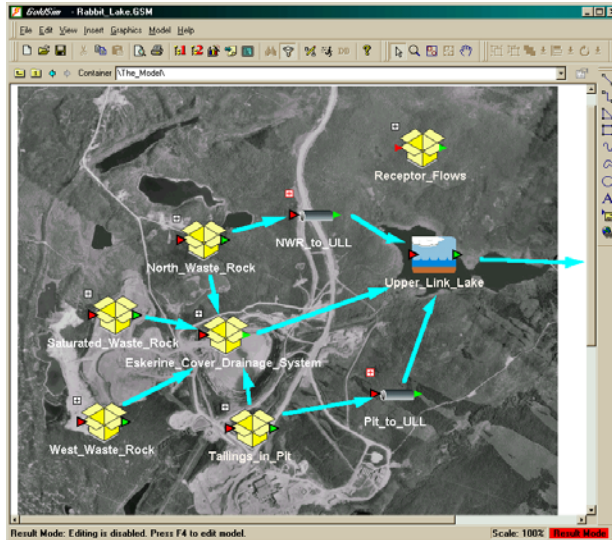

Figure 7: GoldSim Model Simulating Closure Options for a Uranium Mine in Canada
- **Remediation and Closure of Uranium Mill Tailings and Mine Workings.** GoldSim has been used in Germany and Canada (Figure 7) to evaluate alternative remediation and closure options for abandoned mine workings and tailings facilities associated with former uranium mining operations.